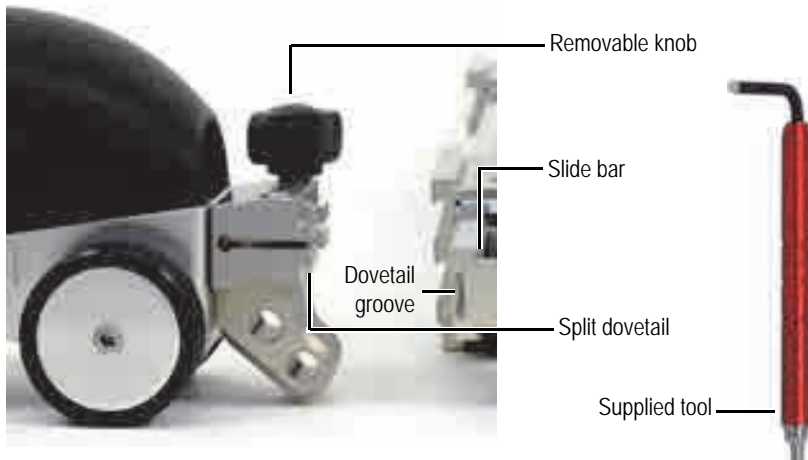

Figure 2-1 Coupling the main module with the slide bar
1. If there is enough room to manipulate the removable knob, use it to couple the main module to the slide bar. When there is not enough room, remove the knob (simply pull it out), and use the supplied tool (insert into the screws) (see Figure 2-1 on page 22).